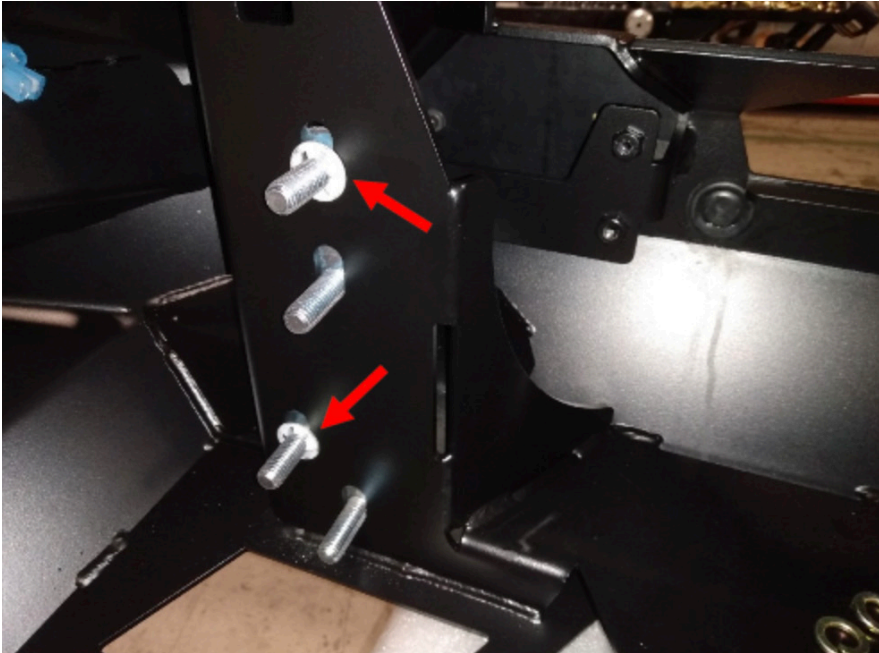

Figure 37
30. Using a 3/4" deep socket, press the four (4) provided 1/2" bolt retainer clips onto the previously installed bolt strips (one per bolt strip) to hold them in place for bumper installation. Figure 37